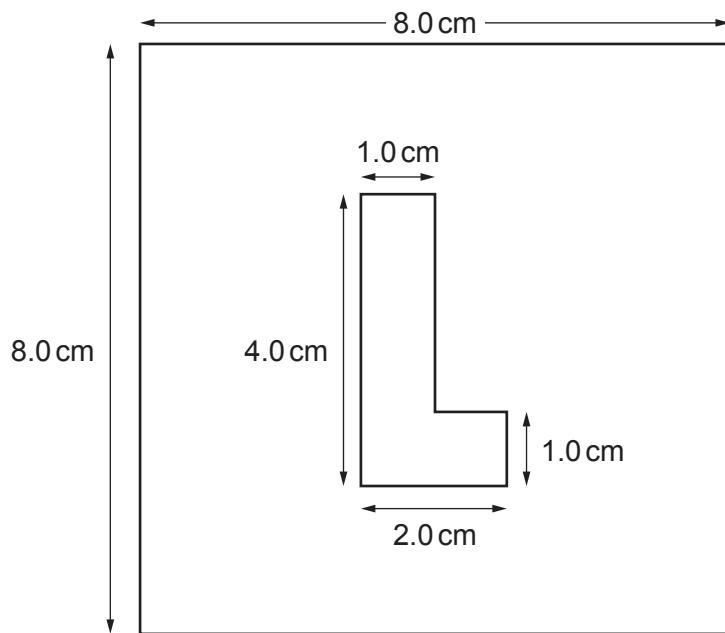

Fig. 3.2
2. The illuminated object is made using a piece of card of size approximately 8.0 cm by 8.0 cm. An L shape is cut out from the centre of the card as shown in Fig. 3.2, with the dimensions shown.